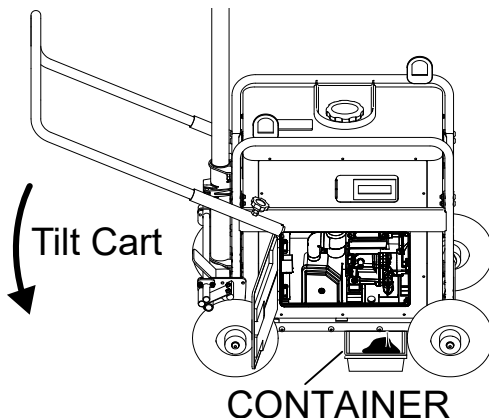

Figure 41. Draining the Oil
7. Tilt cart to drain the engine oil into the container (Figure 41).